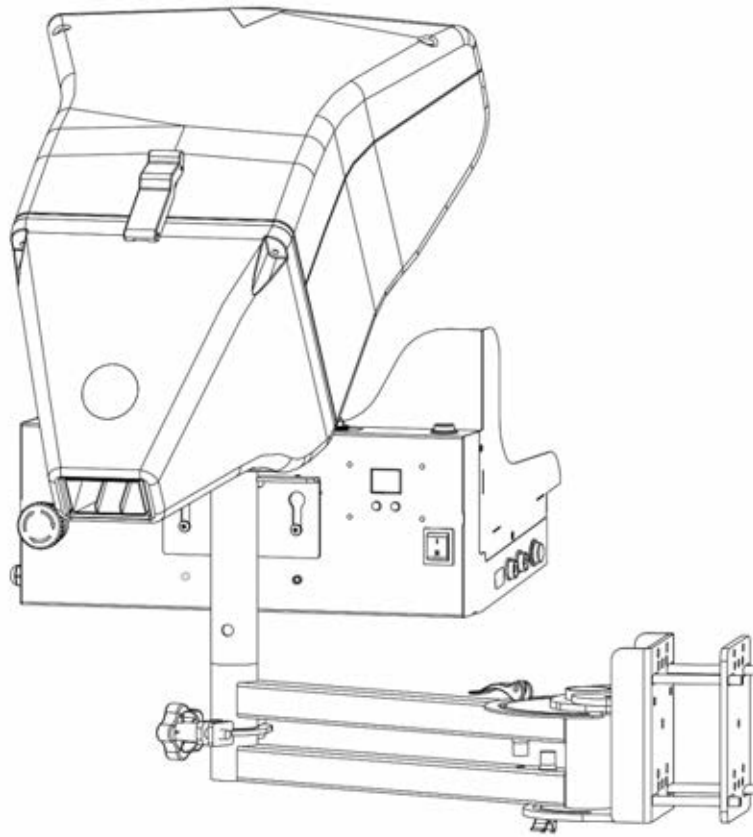

Figure 17 Horizontal Swivel Arm
3. Horizontal Swivel Arm (refer to Figure 17).